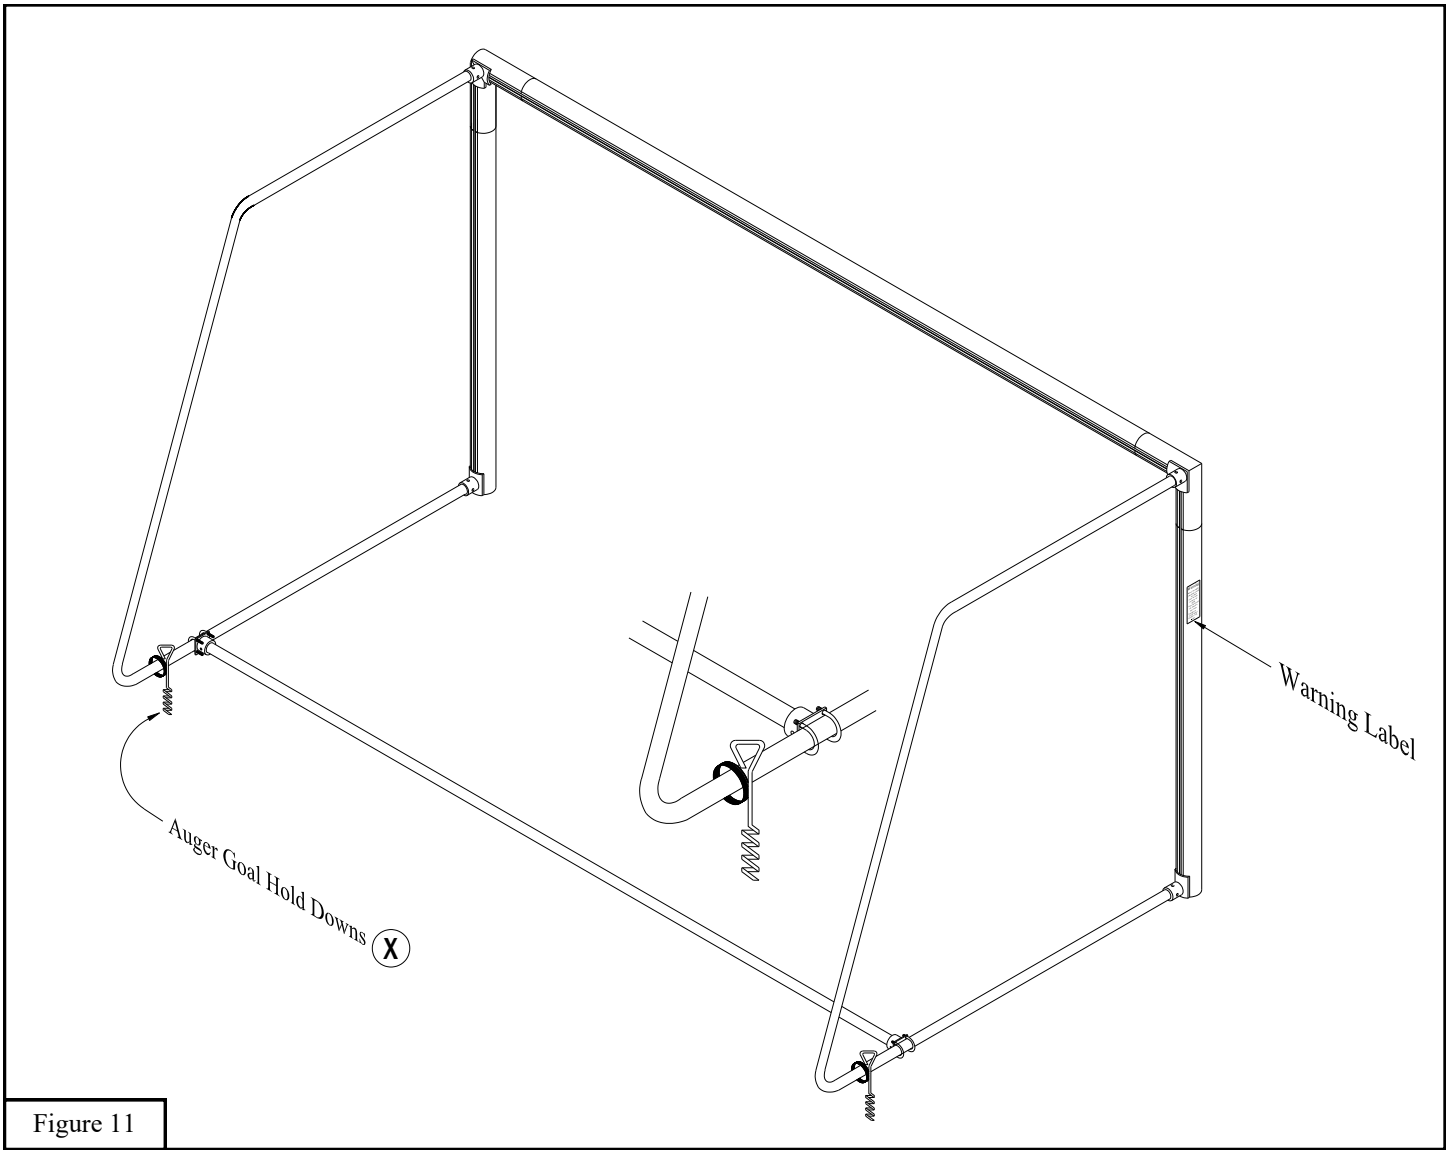

Figure 11
22. Prior to play, the rear of the goal must be secured to prevent accidental tip over. Bison No-Tip Goals, when sand is properly installed, satisfies ASTM F2950-14 Safety Standards. If your goal does not include the No-Tip rear ballast feature and is being used on natural turf, proceed to instruction #23 below. If the goal does not include the No-Tip feature and is being used on an artificial turf that is not compatible with the *Auger Style Hold Downs (X)*, goals must be weighted with rear ballast bags or by other methods. Consult a Bison Product Specialist for options.
23. Position *Auger Style Hold Downs (X)* near the rear radius of the left hand and right hand backstays. Once the *Auger Style Hold Downs (X)* are fully rotated into the ground, clip the chain around the side of the backstays. See Figure 11.